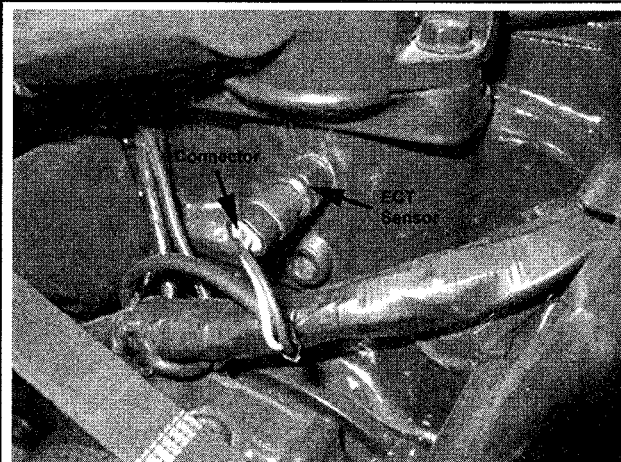

Fig. 52 The ECT sensor is located in the intake manifold on early TBI and MFI models (7.4L shown)...
- ◆ See Figures 52, 53, 71 and 72